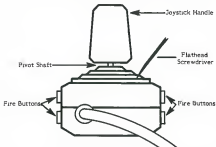

Figure 6-6. Select Switch Bezel Removal
- Slide a flathead screw driver under the select switch bezel between switches and pry out the bezel (See Figure 6-6).